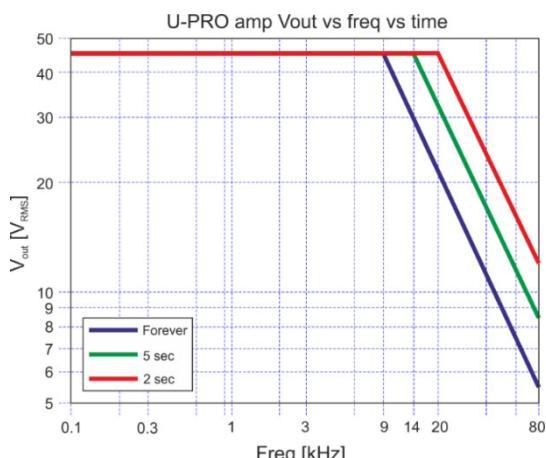

Figure 3-23: Max Vout vs. frequency vs. time
**HF Protection** – A high frequency protection is implemented to protect the amplifier output filter components from overload – refer to *Figure 3-23*. If a high frequency (and high amplitude) signal is present for a longer period of time, the module will enter HF protection and mute (both) amplifier output(s) until the internal protection timing allows the module to re-enable the amplifier(s).